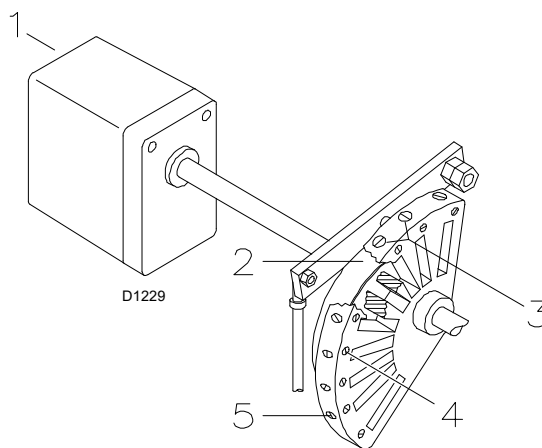
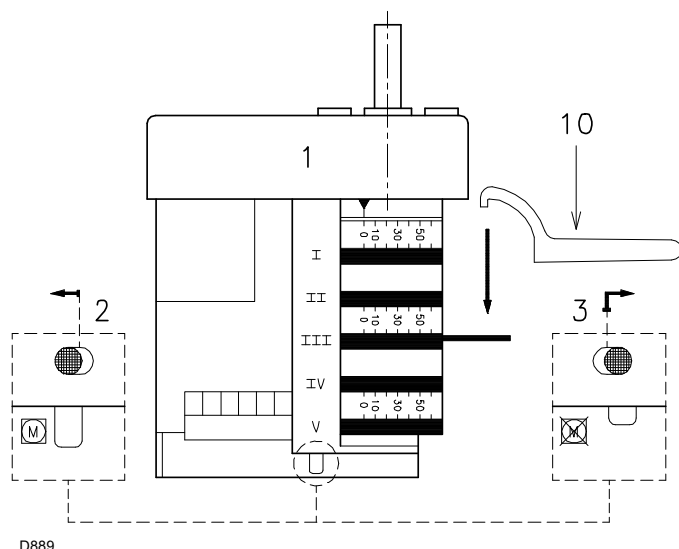

Fig. 28
Fig. 29
Progressively adjust the end profile of cam 2)(Fig. 28) by turning the screws 5).
Progressively adjust the initial profile of cam 2)(Fig. 28) by turning the screws 3).
Switch the burner off with switch 1)(Fig. 28), OFF position. Release cam 2)(Fig. 28) from the servomotor by pressing and shifting button 3)(Fig. 29 on page 27) to the right, and check several times that by rotating cam 2) forwards and backwards by hand, the movement is soft and smooth, without jamming.
Join the cam 2) to the servomotor again by shifting the button 2)(Fig. 29 on page 27) to the left.
Once optimum adjustment has been reached, fix it with the screws 4)(Fig. 28 on page 26).
For any necessary adjustment of cam III, especially for small movements, use the specific key 10)(Fig. 29) held in place beneath the servomotor with the aid of a magnet.
- 6 s :** Servomotor start-up: turn to the right by 130°, i.e. until the contact intervenes on cam I (Fig. 29 on page 27). The air damper is positioned to MAX output.
- 85 s :** The servomotor rotates to the left until the contact on cam 3) activates (Fig. 29 on page 27).
The TL remote control opens, the servomotor returns to angle 0° limited by the contact of cam II (Fig. 29 on page 27). The air damper closes completely to reduce heat losses to a minimum.
Release cam 2)(Fig. 28 page 26) from the servomotor, by pressing and shifting button 3)(Fig. 29 on page 27) to the right. Manually rotate it backwards and forwards to make sure it moves smoothly.
Now engage the cam again by shifting the button 2)(Fig. 29 on page 27) to the left.